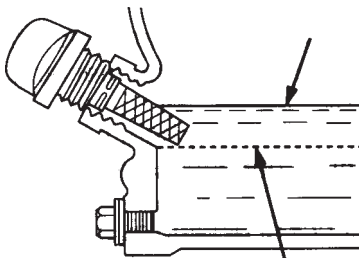

Figure 4. Engine Oil Dipstick (Oil Level)
4. If the oil level is low (Figure 4), fill to the edge of the oil filler hole with the recommended oil type (Table 4). Maximum oil capacity is 0.63 quarts (0.60 liters).